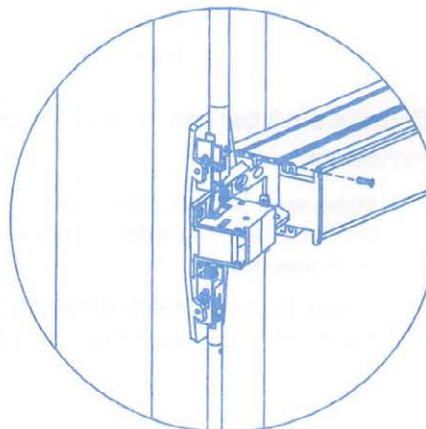

Figure 11
5. Tighten top rod with rod connector onto arrow mark position of chassis assembly. (See Fig. 11.)